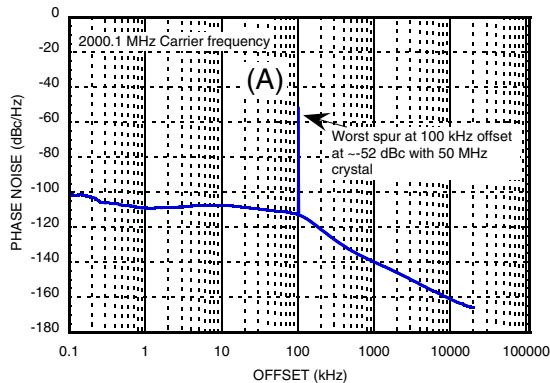
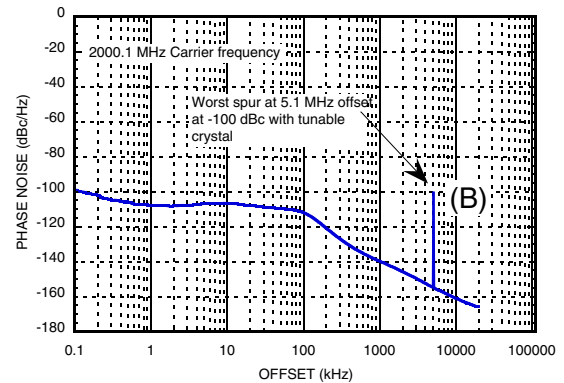
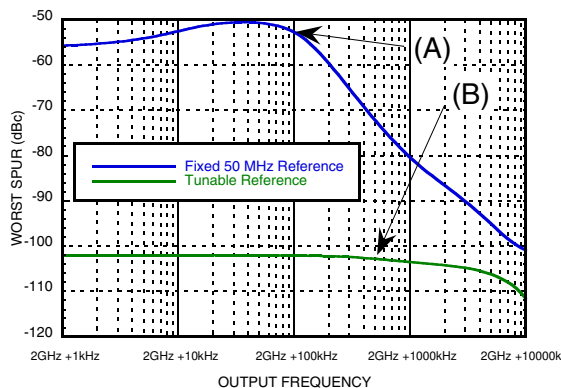

Figure 13. PLLVCO Operating Guide Worst spur at any offset, fixed 50 MHz reference, output frequency = 2000.1 MHz
Figure 14. PLLVCO Operating Guide worst spur at any offset, tunable reference (another PLLVCO Operating Guide), output frequency =
Figure 15. Largest observed spurious, at any offset, using a fixed 50 MHz reference source and a tunable reference source.
For example, Figure 13 shows the spectrum of a carrier operating at 2000.1 MHz with a 50 MHz fixed reference. This case is 100 kHz away from an Integer Boundary (50 MHz x 40). Worst case spurious can be observed at 100 kHz offset and about -52 dBc in magnitude.
Figure 14 shows the same PLLVCO Operating Guide PLL VCO operating at the same 2000.1 MHz carrier frequency, using a tunable reference at 47.5 MHz generated by a second PLLVCO Operating Guide. Worst case spurious in this case can be observed at 5.1 MHz offset and about -100 dBc in magnitude.
The results of Figure 13 and Figure 14 show that the tunable reference source achieves 50 dB better spurious performance, while maintaining essentially the same phase noise performance.
Many spurious measurements, such as the ones in Figure 13 and Figure 14 can be summarized into a single plot of worst case spurious at any offset vs. carrier frequency as shown in Figure 15. A log frequency display relative to the 2000 MHz fixed reference Integer Boundary was used to emphasize the importance of the loop bandwidth on spurious performance of the fixed reference case. This technique clearly shows the logarithmic roll-off of the worst case spurious when operating near the Integer Boundary. In this case the loop filter bandwidth of the HMC830LP6GE was 100 kHz.
For example worst case spurious operating at 2000.1 MHz (point (A)) in Figure 13 with a fixed 50 MHz reference) is represented by a single point in Figure 15 (point (A)) on the blue curve. Similarly, worst case spurious from Figure 14 with variable reference, operating at 2000.1 MHz is represented by a single point in Figure 15 (point (B)) on the green curve.
The plot in Figure 15 is generated by tuning the carrier frequency away from Integer Boundary and recording the worst case spurious, at any offset, at each operating frequency. Figure 15 shows that the worst case spurious for the 50 MHz fixed reference case, is nearly constant between -51 dBc and -55 dBc when operating with a carrier frequency less than 100 kHz from the Integer Boundary (blue curve). It also shows that the worst case spurious rolls off at about 25 dB/decade relative to 1 loop bandwidth. For example, at an operating frequency of 2001 MHz (equivalent to 10 loop bandwidths offset) worst case spurious is -80 dBc. Similarly, at an operating frequency of 2010 MHz (equivalent to 100 loop bandwidths) worst case spurious is -100 dBc.
In contrast, the green curve of Figure 15 shows that the worst case spurious over the same operating frequency range, when using an HMC830LP6GE tunable reference, is below -100 dBc at all operating frequencies!